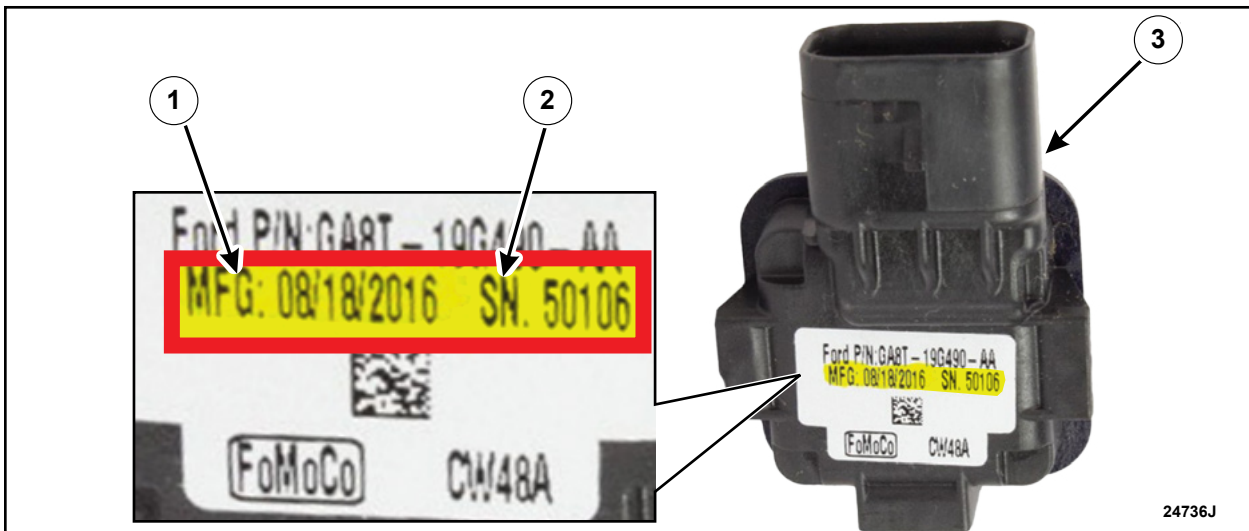

FIGURE 12
11. Write down and include the new camera manufacture date and serial number onto the repair order. The new camera manufacture date serial number should also be included in the warranty claim submission in the technician comments section. See Figure 12.